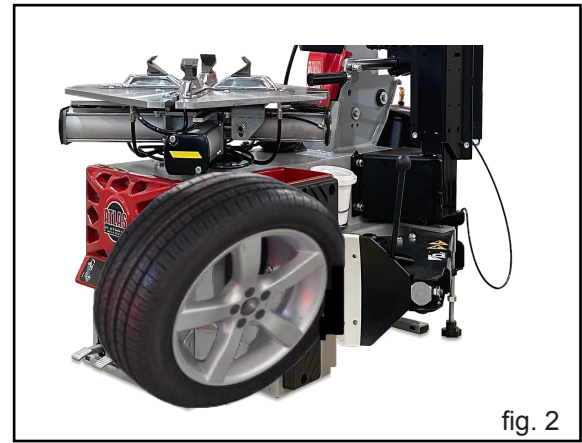

fig. 2
- Position the wheel against the rubber wheel support (6, Fig 2) on the right side of the tyre changer.
- Position the bead breaker shovel (7) against the tyre bead at a minimum distance from the edge of the rim. Use bead breaker shovel protector for alloy rims. Pay attention to the shovel, which must operate correctly onto the tyre and not onto the rim. (Fig. 2)
- Press down the pedal (4) to activate the bead breaker and release it when the shovel has reached the end of its travel or in any case when the bead is broken.
- The PO SYSTEM (patented device) starts automatically after releasing the pedal (4), granting no bead breaker shovel stuck between the edge of the rim and the bead of the tyre, pushing it toward the outwards. This avoids difficult manual operations and speeds up the work of the operator.